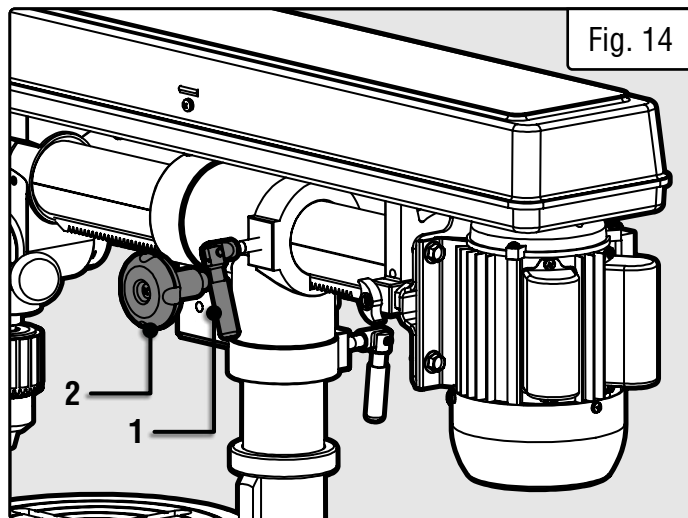

Fig. 14
1. To move the head forward and backward, loosen the head angle locking handle (Fig. 14 - 1).
2. Turn head traverse knob (Fig. 14 - 2) clockwise or counterclockwise until the head is in the desired position.
1. To tilt the head left and right, loosen the head angle locking handle (Fig. 14 - 1).